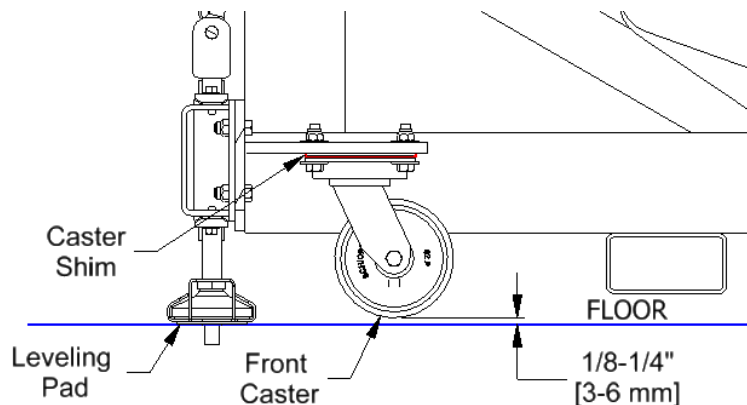

Figure 42
- a. If Leveling Pad does not touch the floor, remove a Caster Shim from under the Front Casters Mount as shown in figure 42. Goal height adjustment should be readjusted.